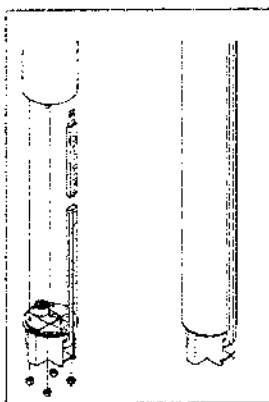

Fig. 6
4. Press the cable plug into the motor socket. The plug will only fit one way, see fig. 6.
5. Install and tighten the four nuts, see fig. 6. When the plug has been installed, there must not be a clearance between the motor and the cable plug.